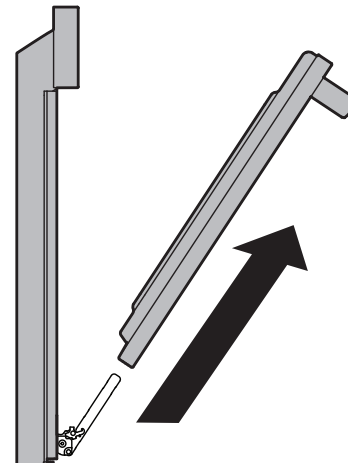

Figure 17: Remove door
4. Pull the bottom of the door toward you while rotating the top of the door toward the appliance to completely disengage the hinge levers (Figure 17).
1. Firmly grasp both sides of oven door along the door sides. Do not use the oven door handle (Figure 17).